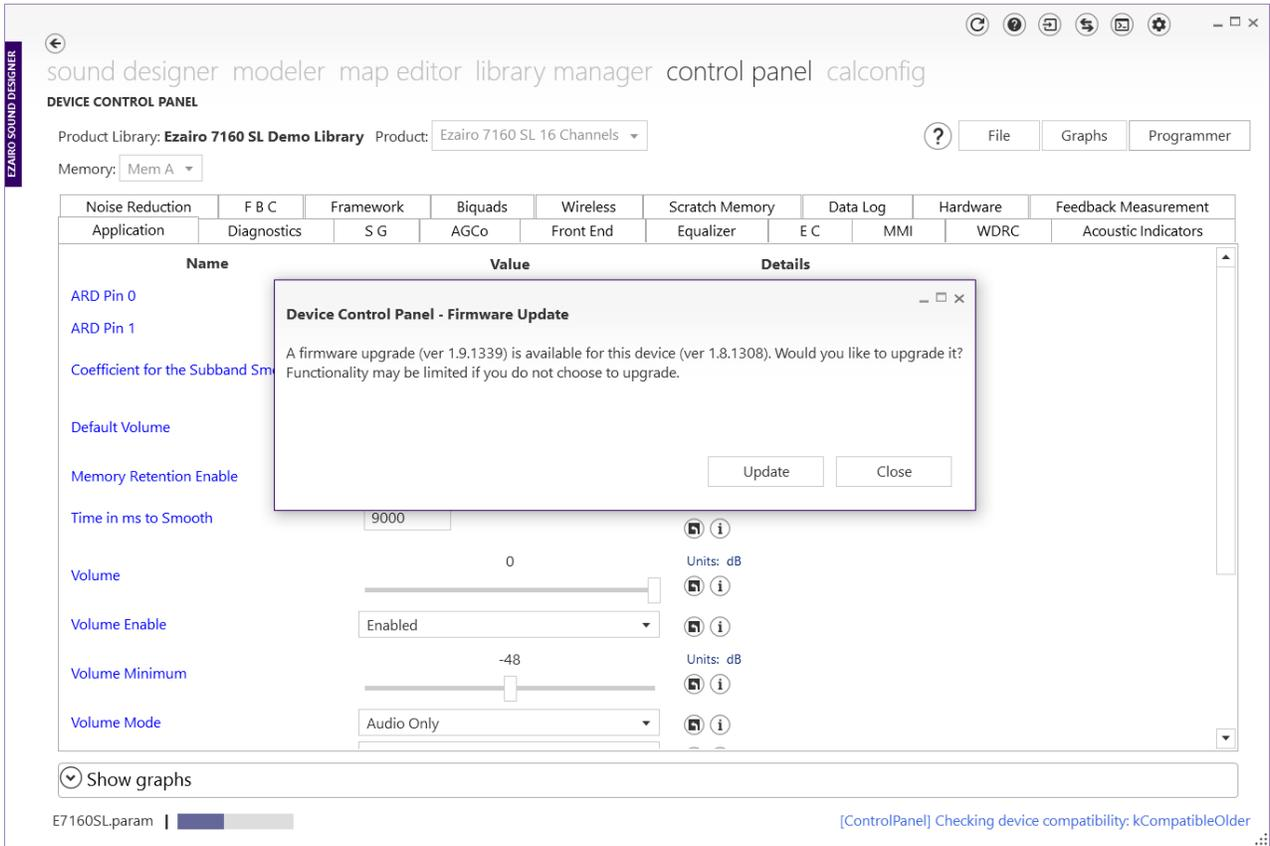

Figure 10. Upgrading the Firmware
9. Before communicating any parameter information, Sound Designer Software checks the device to determine the firmware version currently residing in NVM. If the current version (contained within Sound Designer Software) is not the same as that currently in the device, you are prompted to upgrade the firmware. The prompt screen looks similar to that shown in the figure "Upgrading the Firmware" (Figure 10).